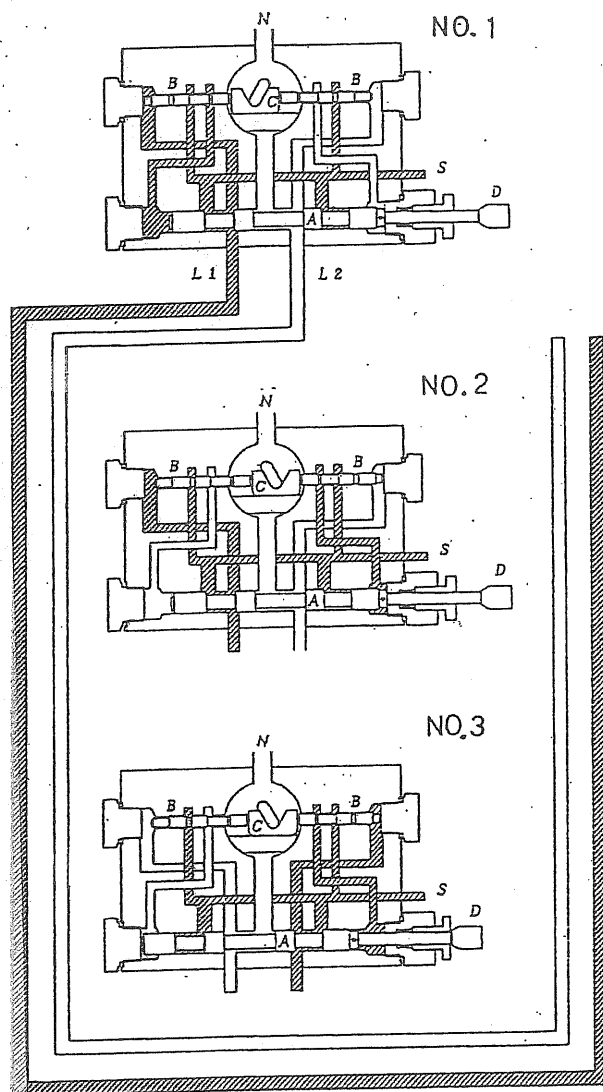

Fig.5 Function of hydraulic-operated reversing valve
The composition is as show in Fig.5.
- (a) In No.1 of Fig.5, grease pressurized by the pump passes through the inlet S and is forced into the main supply pipe L1 by means of the piston A. At this time, the other main supply pipe L2 is connected to the reservoir through N. The darkened part of Fig.5 shows the existence of pressurized grease.
- (b) When the pressure in L1 exceeds the set valve, the piston B is moved to the right as shown in the No.2 of Fig.5. During this movement, grease entering into the cylinder through the inlet S is forced against the right end of the piston A by the movement of piston B. At the same time, the left end part of the piston A is connected to the relief line N.
- (c) Grease entering the cylinder through the inlet S and pressurized by the pump moves the piston A to the left, as shown in the No.3 of Fig.5. Upon completion of the above movement, the main supply pipe L1 is connected to the relief line N.
piston A is provided with a switch cam rod D, as shown in Fig.5, so that the line reversing operations can be observed from the outside.
When the lubricating pump is started again, grease is admitted into the main supply pipe L2 as shown in No.3 of Fig.5.
After all the measuring valve have been actuated by grease pressurized by the pump, the pressure at the end of L2 line. When the pressure exceeds the set value, the piston B is moved to the left. With the movement of the piston B, the pressurized grease from the inlet S is forced against the left end of the piston A. This allows the piston A to move to the right as shown in No.1 of Fig.5. At this time, the limit switch is actuated by means of the switch cam rod D, and the lubricating pump stops. The line reversing pressure of this hydraulic-operated reversing valve can be adjusted by means of a spring tension adjustment screw attached to the block C.